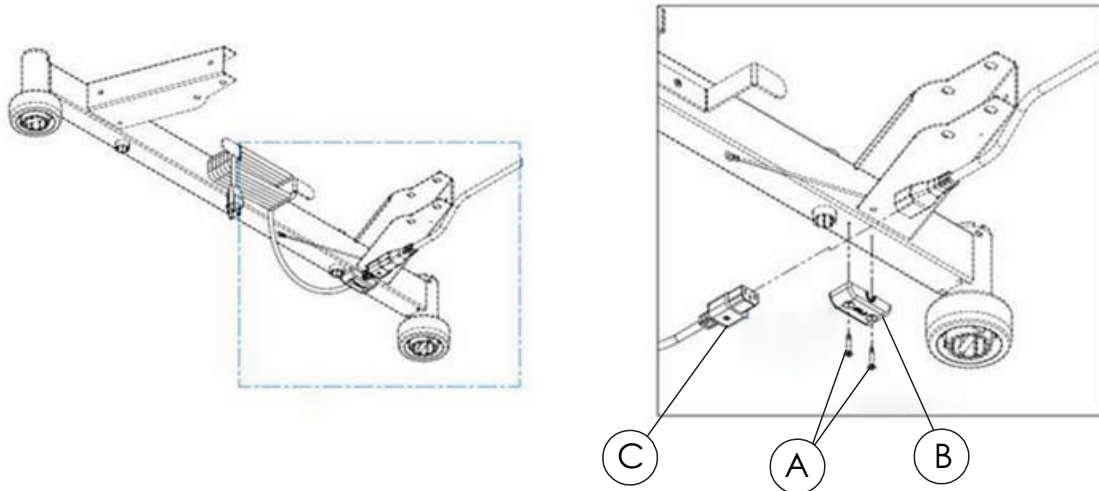

Figure 14 – Power cord
4. Remove the two screws (A) that secure the power cord connection cover (B) to the litter frame (Figure 14).
5. Remove and discard the external power cord (C) from the internal power cord (Figure 14).